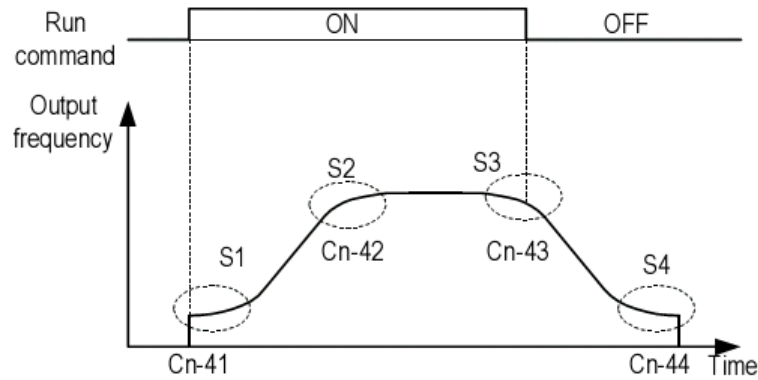

Fig.4-19 S Curve
(34) Slip compensation delay time (Cn-40)
(35) S-curve characteristic time at acceleration start (Cn-41)
(36) S-curve characteristic time at acceleration end (Cn-42)
(37) S-curve characteristic time at deceleration Start (Cn-43)
(38) S-curve characteristic time at deceleration end (Cn-44)
- S-curve characteristic time can be set respectively for beginning acceleration, ending acceleration, beginning deceleration and ending deceleration. The relation between these parameters is shown Fig.4-19